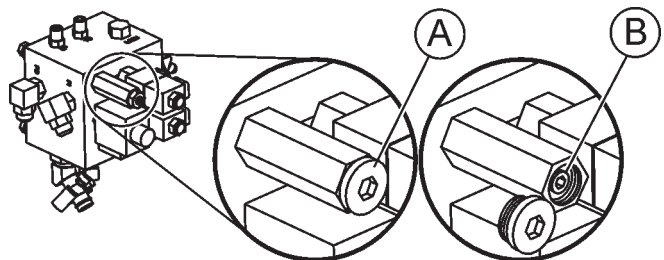

Figure 47. Pitch Pressure Relief Valve
2. With the engine **OFF**, remove the end cover on relief valve, (Item A, Figure 47).
3. Adjust the relief valve, (Item B, Figure 47) with allen wrench and reinstall the end cover.